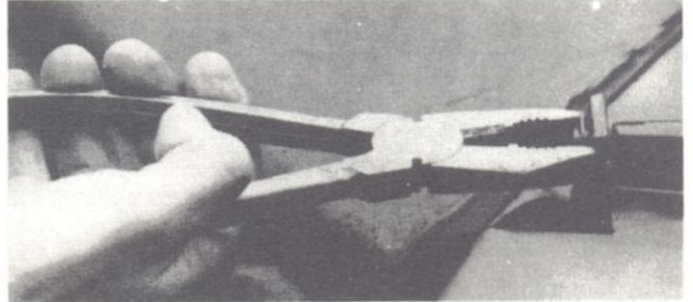

Fig. 4
5. Secure by clipping an 'E' Clip into the groove on the pivot rod. See Fig. 4.